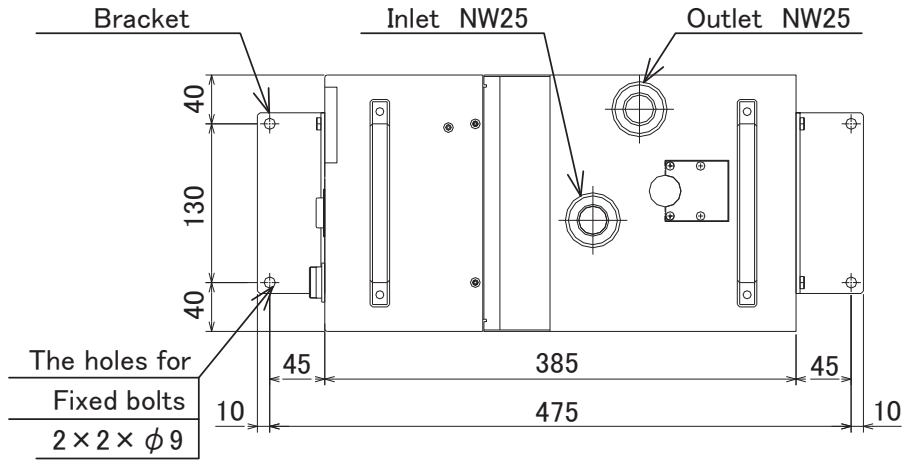
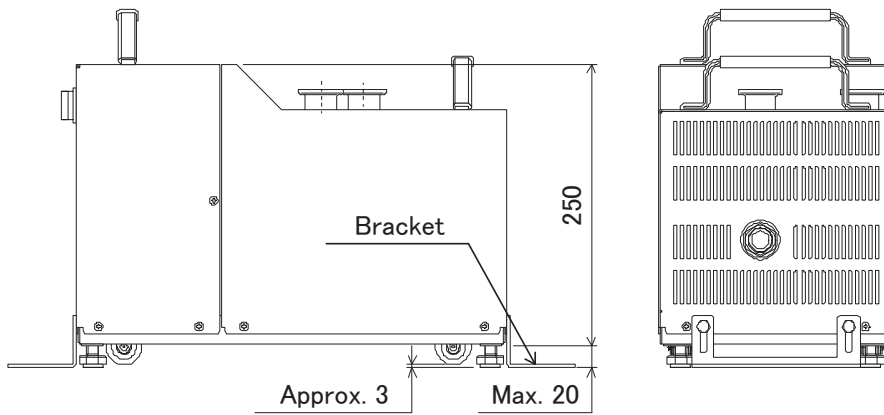

Fig.4.1 Pump fixation position
Fig.4.2 How to fix the pump with casters and adjusters
- \*Please fix the pump with appropriate bracket. (Fig.4.1, Fig4.2)